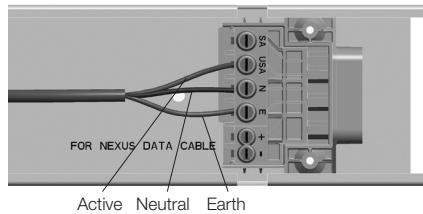

Figure 1: Quickfit terminal block connection
5. Run the cables in the ceiling or wall space as appropriate or surface mounted in conduit and through the cable hole into the bracket. Strip, connect and terminate the cables as indicated in figure 1. Ensure that the double insulation of the cable/s passes completely into the terminal block enclosure so that no single insulation is exposed when the cover is in place. The hole plug set includes a suitable bush to mechanically protect the cable as it passes through the opening in the mounting bracket. Likewise, the single insulation of the conductors should run right up to the metal edge of the terminals leaving no bare conductors outside of the terminals. Be careful with multi strand conductors that all of the strands are twisted together before insertion into the terminal. Any stray strands that inadvertently come into contact with their neighbouring terminal or the metal frame of the fitting will cause undesirable results when the fitting is powered.